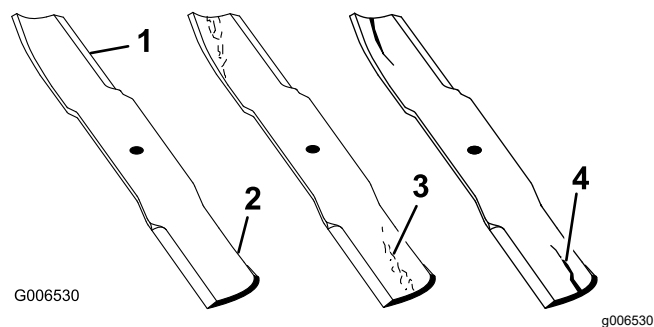

Figure 69
1. Inspect the cutting edges (Figure 69).
4. If you notice any cracks, wear, or a slot forming in this area, immediately install a new blade (Figure 69).